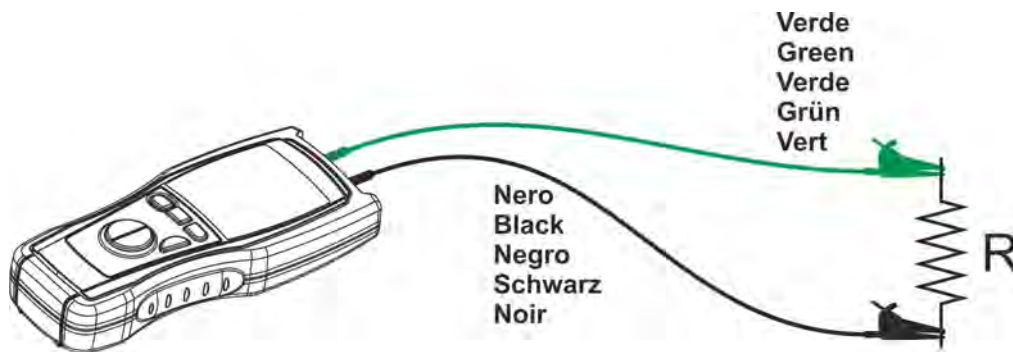

Fig. 5: Connection of the instrument's terminals
5. Position the test probes on the desired points of the circuit under test (see Fig. 5)